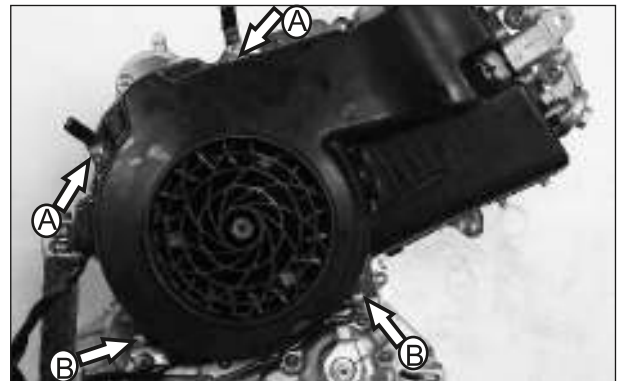

Fig. 3.36
- Loosen and remove 2 nos. hexagonal flange bolt M6X20 along with clamp wire routing. from cowl LH (A). (Fig. 3.36)
- Loosen and remove 2nos. hexagonal flange bolt M6X20 from cowl LH (B). ( Fig. 3.36) Remove the Cowl LH.